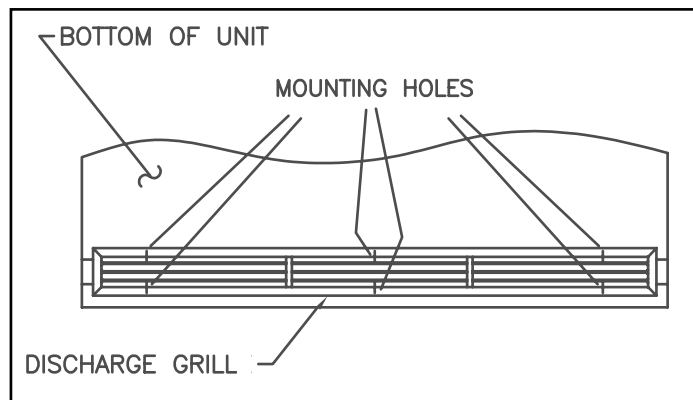

FIGURE 9
- K. Attach the louvered discharge grille to the unit with the six (6) No. 6 x ¾" phillips head screws provided. **See Figure 9.**
2. Remove the discharge grille by unscrewing the six (6) Phillips head screws located on the inside edge of the grille. **See Figure 9.**